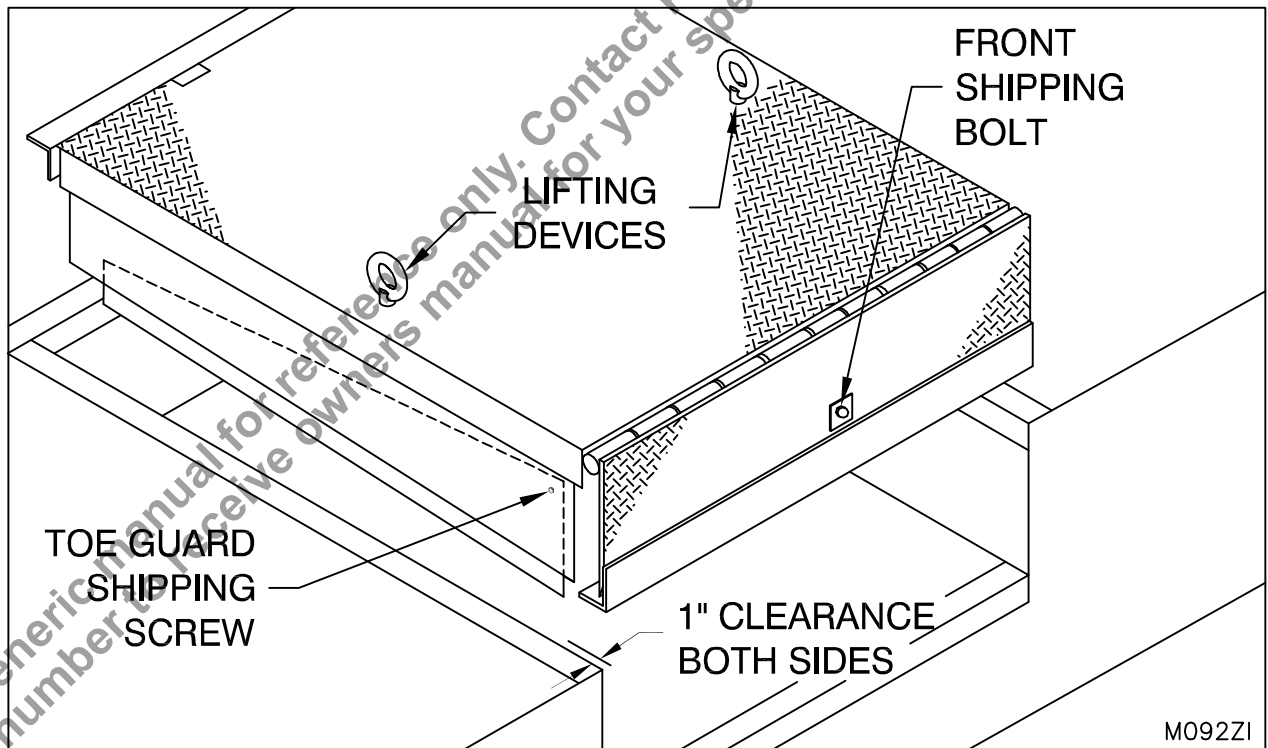
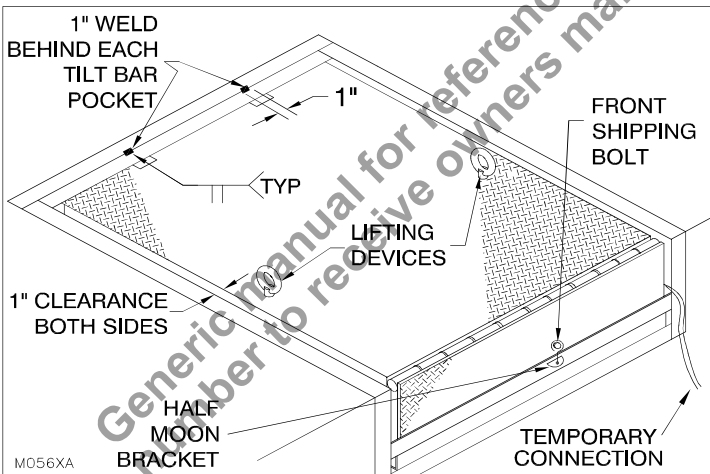

Figure 6: Hoist Leveler with Chain
Figure 21: Installing Leveler into Pit
1. Hoist leveler into pit with appropriate chain and lifting devices (See “Figure 6: Hoist Leveler with Chain” on page 11) and position the leveler into the pit opening. The dock leveler must not be lifted in any other manner.
3. Remove the lifting devices. **Remove** the front shipping bolt and washer. (“Figure 6: Hoist Leveler with Chain” on page 11)
6. ___ Support the lower half of the toe guard and remove the self tapping screw which holds it in the shipping position. **Carefully** lower the toe guard and avoid pinch points. (see "Figure 6: Hoist Leveler with Chain" on page 11)
4. ___ Hoist leveler into pit with chain using only appropriate lifting devices (“Figure 6: Hoist Leveler with Chain” on page 11) and position the leveler into the pit opening. Note: Assure temporary wire is accessible through front of dock leveler. (“Figure 21: Installing Leveler into Pit” on page 18).
5. ___ Ensure 1” clearance is maintained between the side of leveler platform and the side pit wall and that the rear angle of the dock is firmly against the rear curb angle. (“Figure 6: Hoist Leveler with Chain” on page 11)
7. ___ Weld the rear angle of the dock leveler to the rear curb angle, 1” wide butt weld, at the location of each tilt bar pocket (2 places). “Figure 21: Installing Leveler into Pit” on page 18.
10. ___ Remove the top shipping bolts and lifting devices. Remove the front shipping bolt (“Figure 6: Hoist Leveler with Chain” on page 11).